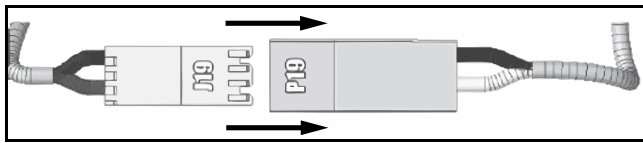

Fig. 42 Connect the E-Heat J19 Plug to the Blower P-19 Plug
3. Trace the J19 plug (red and black) from the e-heat 6-pin plug harness and connect it to the P-19 plug of the blower power harness. (→Refer to Fig. 42.)